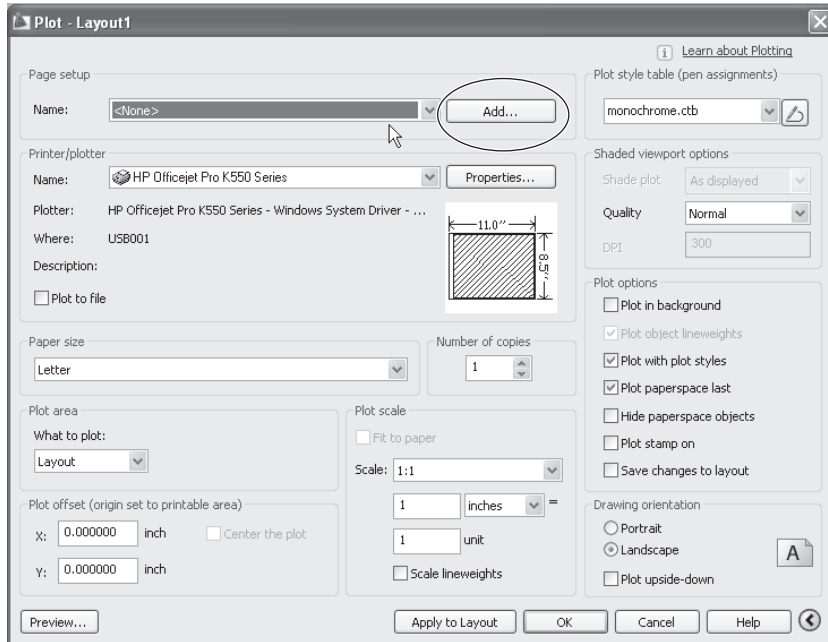

Figure 12.6
1. At the top of the Plot dialog box, click the Add button in the Page Setup group, as shown in Figure 12.6.